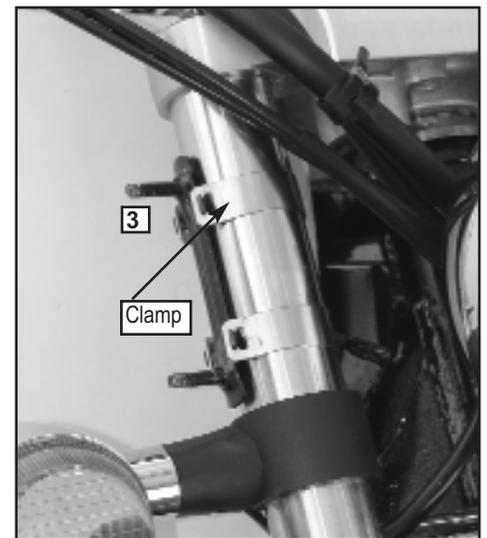

Figure 1.
5. Use the Spiders from the Chrome Lower Kit to install the Clamps in the precise location as specified in the SwitchBlade Mount Kit Installation Manual. **Figure 1.**